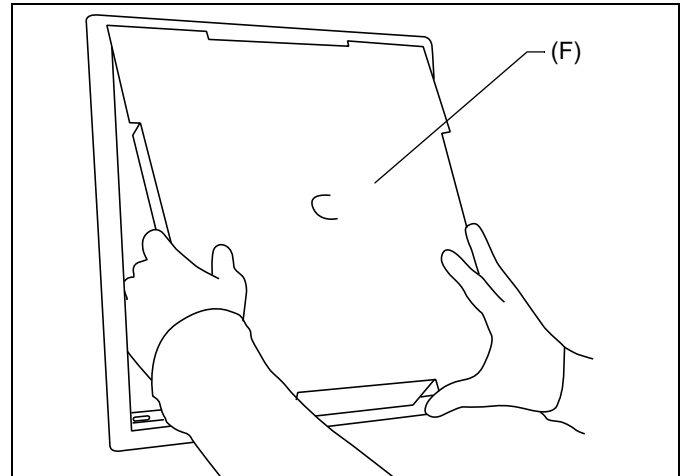

Figure 10
**NOTE: OPTIONAL:** Install template (F), if necessary, as a temporary cover to protect interior of PAC525/526 box from debris.
1. Fold tabs of template (F) in and insert into PAC525/526 opening. (See Figure 10)